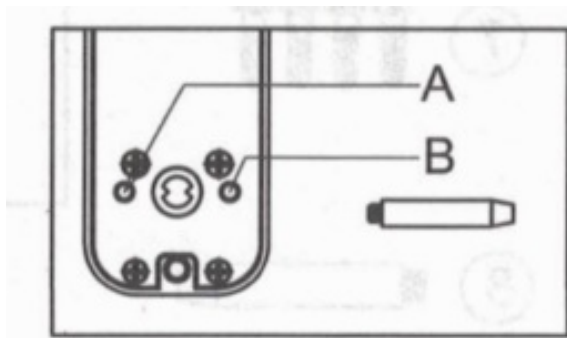

Figure 4
- Screw the Bolt Guide in to Hole A for a door opening to the right (clockwise opening) (Figure 4)
- Screw the Bolt Guide in to Hole B for a door opening to the left (anti-clockwise opening) (Figure 4)